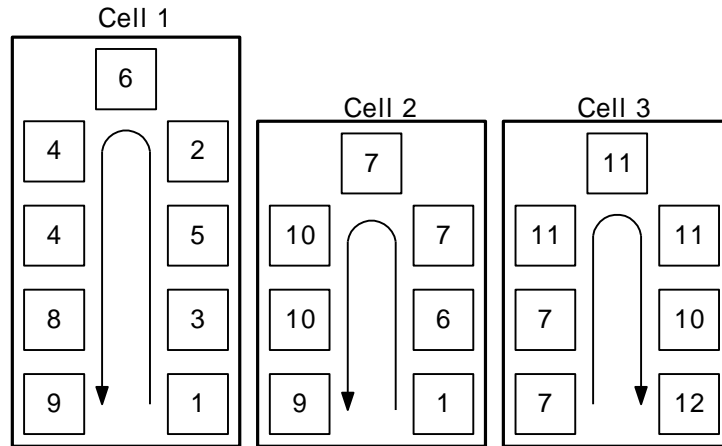
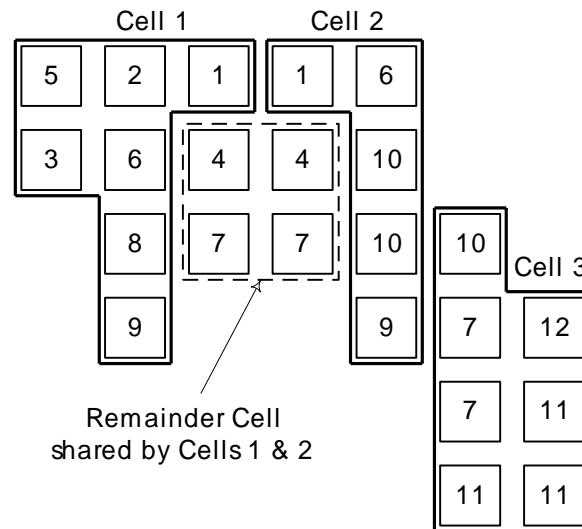

Figure 2 Cellular Layout with Three Cells
Figure 8 Cellular Layout with a Remainder Cell
The implementation of Lean Manufacturing usually includes changes in the factory layout, especially the implementation of one or more manufacturing cells. A Cellular Layout (Figure 2) has advantages such as low lead times and low WIP levels. However, high machine utilization is not guaranteed in all cells. Also, in case of machine breakdowns and changes in demand or product mix, a cell designed to produce a single part family is inflexible and unsuitable for reconfiguration.
With reference to the cells shown in Figure 2, Machines #1, #6, #7, #9 and #10 have been duplicated in several cells. This physical duplication of identical machines into cells destroys the flexibility obtained by having all machines of a shared type in a functional group, as in a Functional Layout. HCLs attempt to avoid this physical separation of machines that must be shared by two or more cells.
*Cellular Layout with a Remainder Cell* (Figure 8): This layout eliminates the machine duplication problem experienced with a Cellular Layout. One or more shared machine types are kept in a Remainder Cell accessible to all the cells that need to share these machines. The original compositions of Cells 1 and 2 (Figure 2) were relaxed to